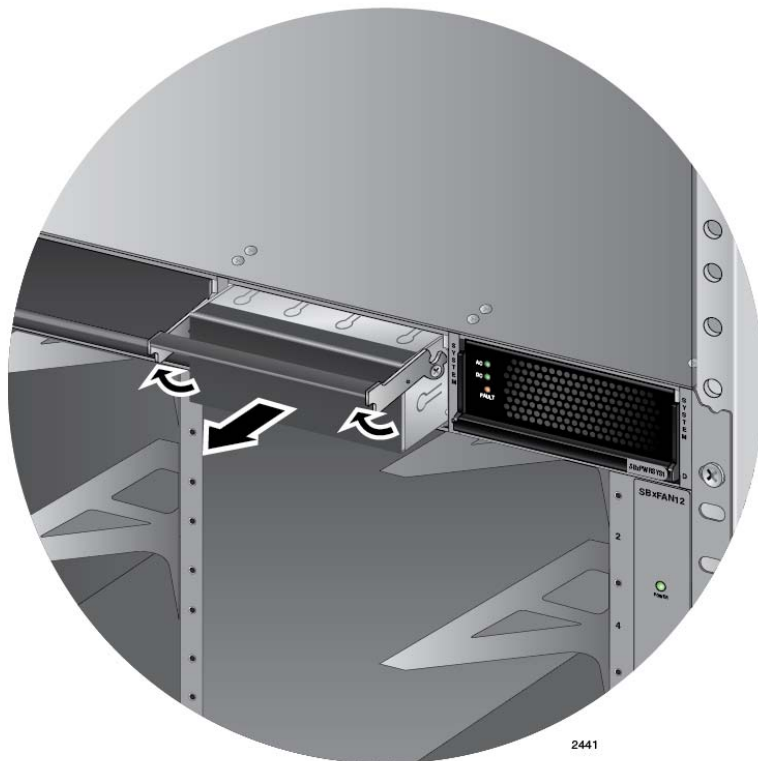

Figure 48. Removing the Blank Slot Cover from Power Supply Slot C
2. If the chassis already has a power supply in slot D, remove the blank power supply panel from slot C by lifting the blank panel handle and sliding it out of the slot, as shown in Figure 48.